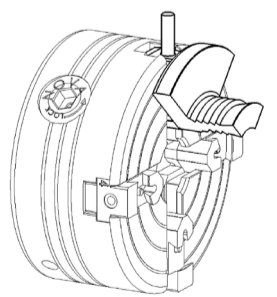

FIG 4
2. With the jaws opened to their outermost position, push in the Lock Push Pin on the back of the Jaw Side using the pin in the end of the Chuck Key Handle to release the locking mechanism (Figure 4).